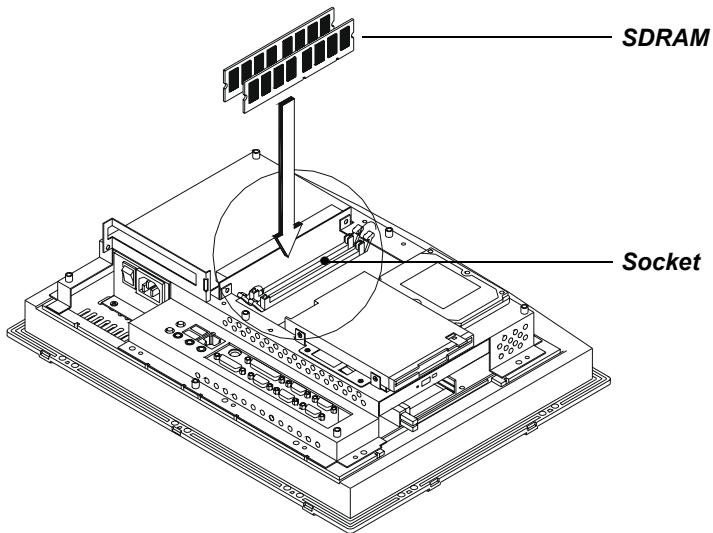

Figure 4.4: Installing SDRAM
2. Push the two white eject levers on each side of the DIMM outward until they are separated from the black vertical posts. (See Fig. 4-4.)